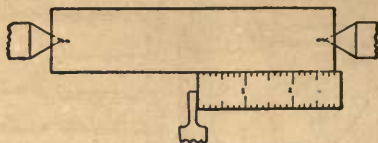

Fig. 11.
**Outside Thread.**—In Fig. 11 the manner of setting a square-thread tool for cutting outside threads is illustrated.